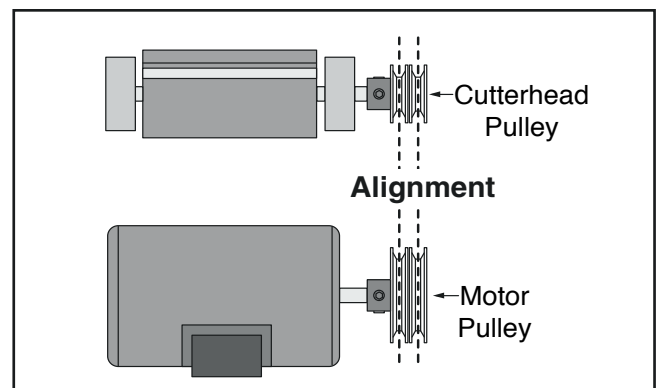

Figure 42. Pulleys aligned.
- Tighten motor mount fasteners. V-belts should be parallel and aligned, as illustrated in **Figure 42**